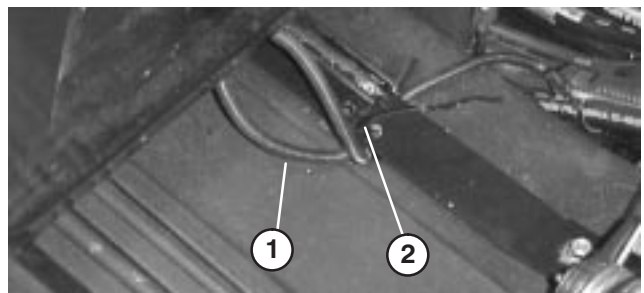

Figure 6
3. Install seat belt to holes on each side of seat with (2) bolts and lockwashers (standard seat) or (2) bolts and locknuts (deluxe seat). All mounting fasteners supplied with seat kit loose parts.
6. On deluxe seat only, route unused seat switch connector back under seat strap and secure both wires to rear most hole in seat strap (Fig. 6) with a cable tie (cable tie supplied with seat kit).